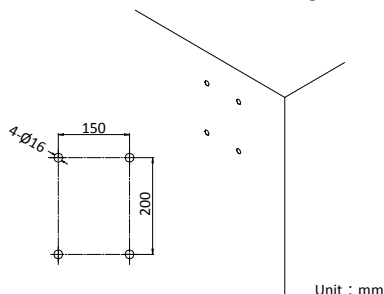

Figure 2-2 Drill Screw Holes
- 1) Drill four  $\varnothing 16$  screw holes where you want to install the positioning system according to the holes on the bracket as shown in Figure 2-2.